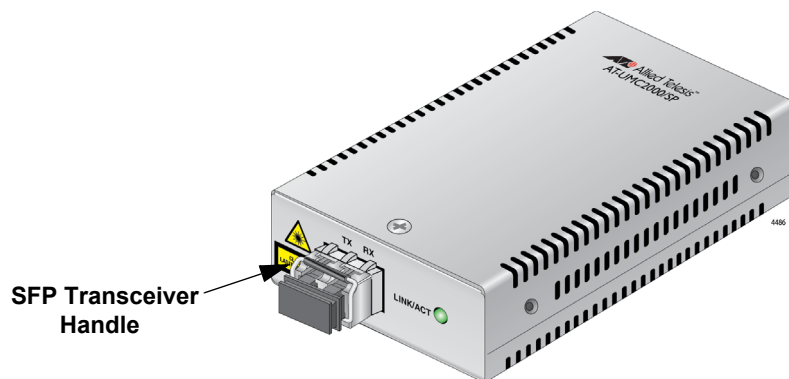

Figure 20. Positioning the SFP Handle in the Upright Position
5. Verify that the handle on the transceiver is in the upright position, as shown in Figure 20. This secures the transceiver and prevents it from being dislodged from the slot.